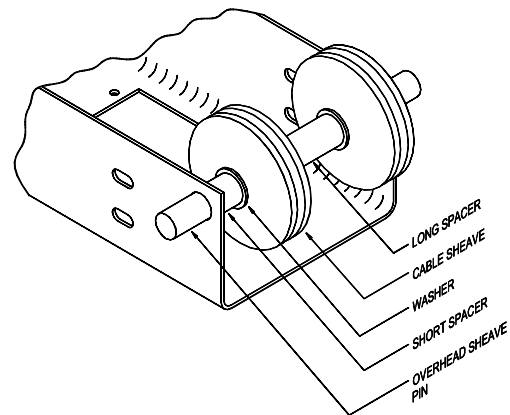

Fig 4
6. Assemble the synchronizer cable sheaves, axles, and spacers in the overhead channel. **See Figure 4.**